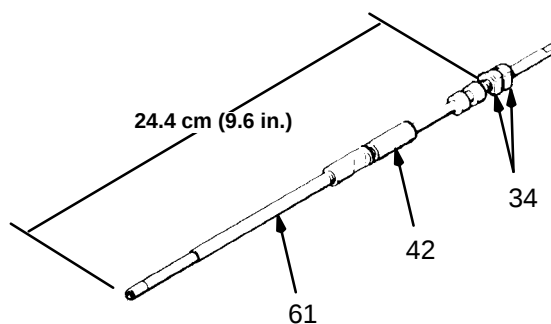

Fig 8
NOTE: The fluid needle assembly (61) and the actuator shaft (42) are sent from the factory with the retaining nuts (34) set for the correct length. If these nuts are moved, reset them to the proper dimension shown in Fig 8.